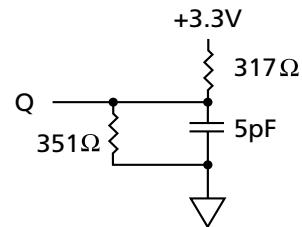

Figure 2
- The load used for V_{OH}, V_{OL} testing is shown in Figure 2. AC load current is higher than the shown DC values. AC I/O curves are available upon request.
3. This parameter is measured with the output loading shown in Figure 2.